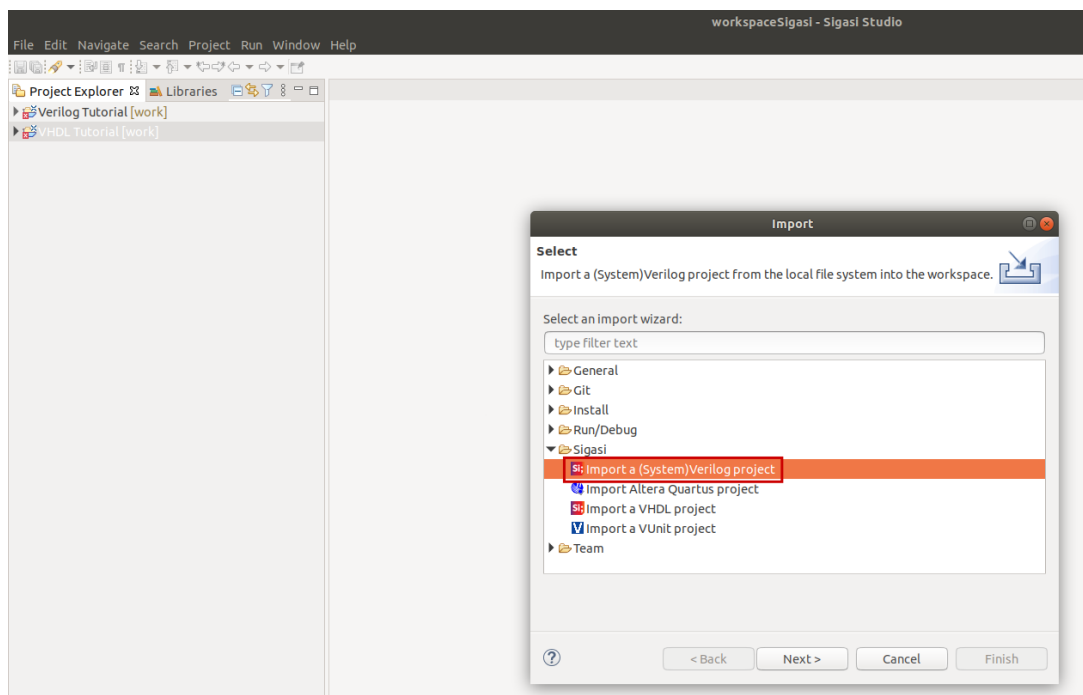

Figure 3. Import the RVfpga project
3. On the Sigasi Studio window click on File → Import... A new window will open that asks you to select the type of project that you want to add to your system. Choose “Import a (System) Verilog project” and click next (Figure 3).